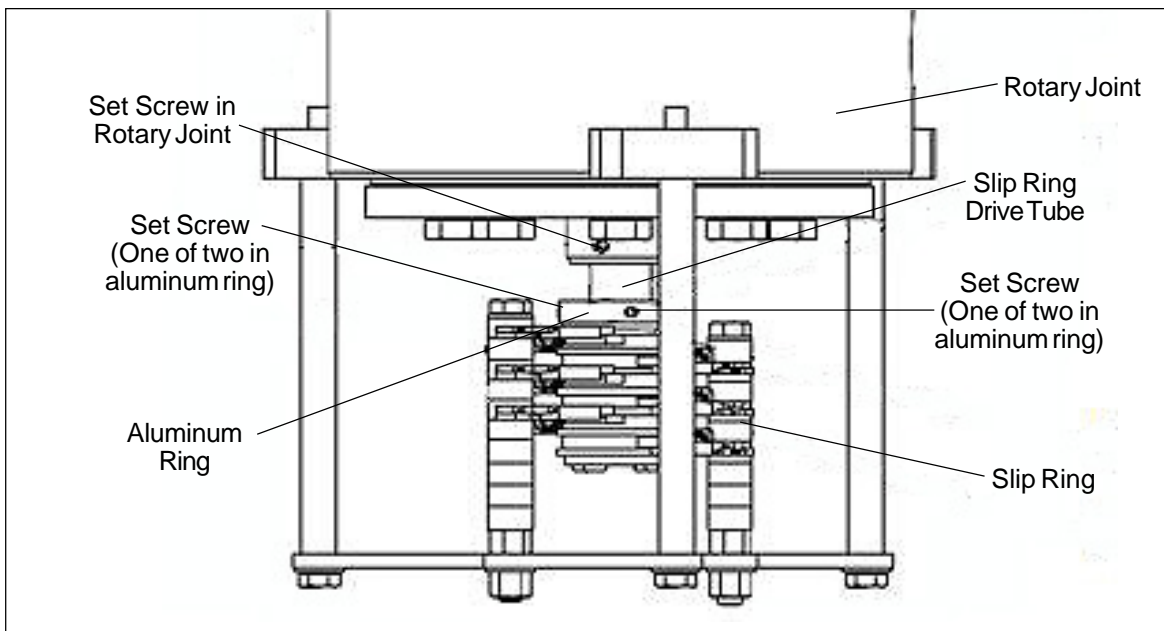

Figure 2 — Set Screw Location
3. Check to see if there is a set screw in the tapped hole in the boss on the bottom of the rotary joint (refer to Figure 2). Insert a $\frac{1}{8}$ " Allen wrench in the hole and try to engage the hex socket of the set screw. If the Allen wrench engages a set screw in the hole, go to Step 4. If there is no set screw in the hole, the slip ring is improperly installed, continue on to Step 5.